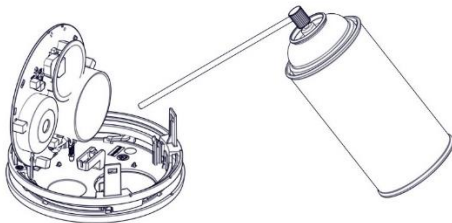

Figure 16
5. Use an Air Duster to clean debris, dust, and dirt that accumulates mostly around the smoke chamber (see Figure 16).